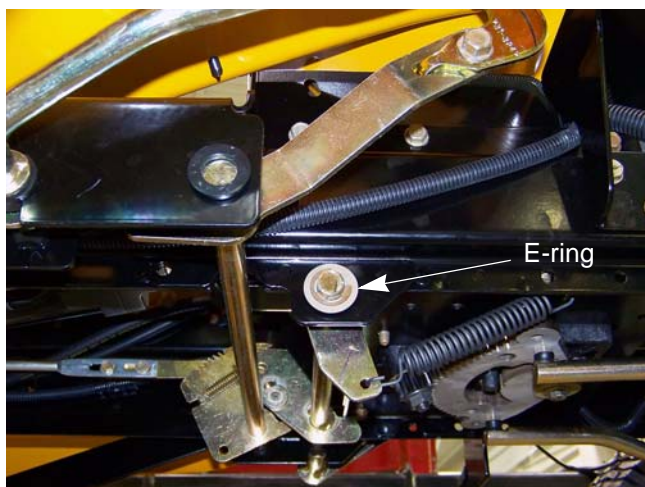

Figure 3.15
5. Remove the E-ring and washer(s) from the right side of the brake pedal shaft. See Figure 3.15.